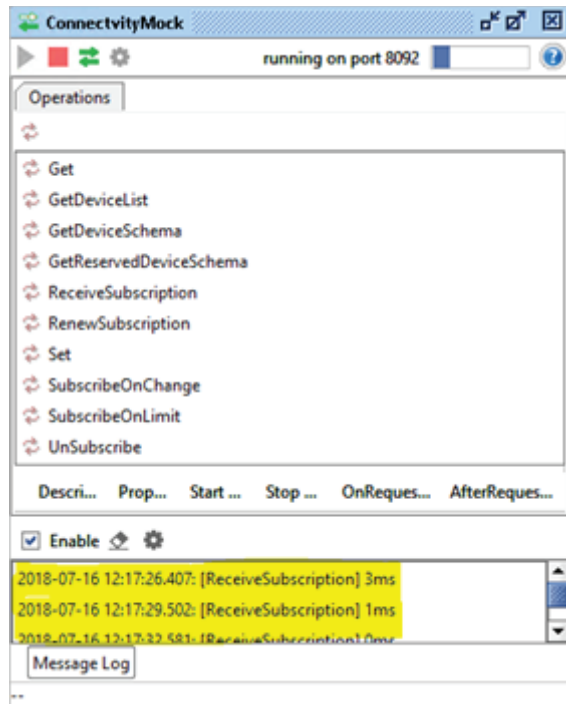

Figure 69 – Message Log
8. In the **ConnectivityMock** window, messages appear if the ports are open and the server is able to communicate with the device (Figure 69).